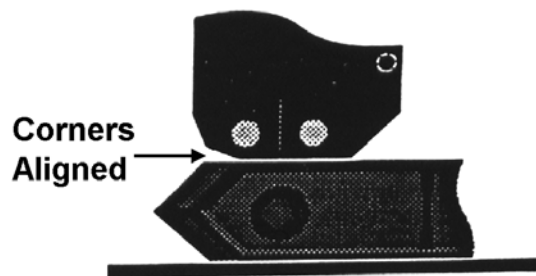

Figure 7-3. Near Tunnel Final Position for Shuttle Timing Procedure
4. Check to make sure the shuttle in the near tunnel is in its correct final position. This is shown in Figure 7-3. The two edges need only align to within 1/16".